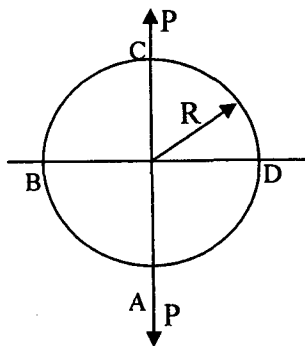

Fig. Q.9
Q.9) Determine the maximum B.M. and increase in the vertical diameter AC of the ring under the action of forces 'P' applied as shown in Fig. Q.9. $EI=\text{constant}$.